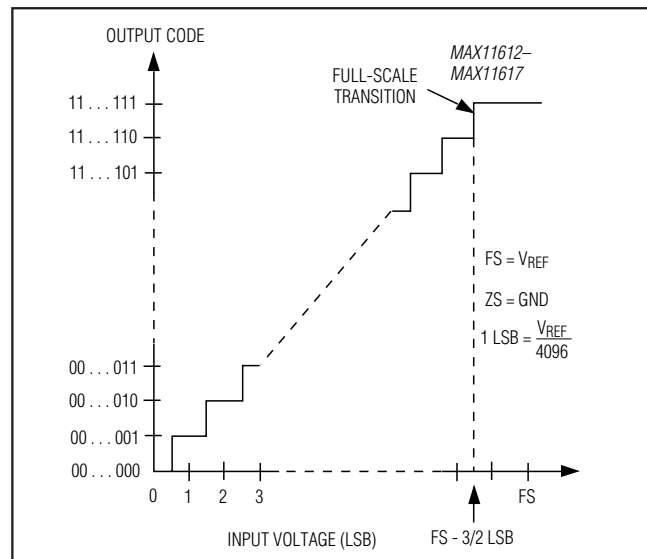

Figure 12. Unipolar Transfer Function
Output data coding for the MAX11612-MAX11617 is binary in unipolar mode and two's complement in bipolar mode with $1 \text{ LSB} = (V_{\text{REF}}/2N)$ where N is the number of bits (12). Code transitions occur halfway between successive-integer LSB values. Figures 12 and 13 show the input/output (I/O) transfer functions for unipolar and bipolar operations, respectively.